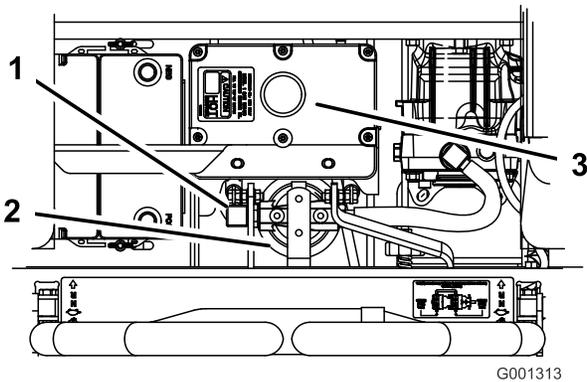

**Figure 84**
3. Place drain pan under filter, remove the old filter and wipe the filter adapter gasket surface clean (Figure 84).